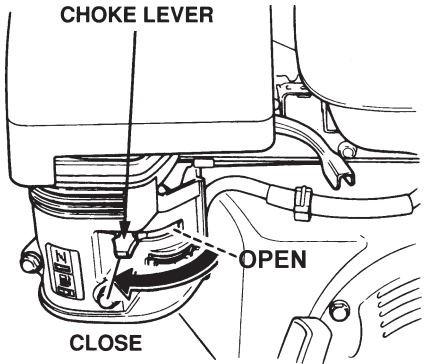

Figure 13. Choke Lever
3. Place the *Choke Lever* (Figure 13) in the "**CLOSED**" position.